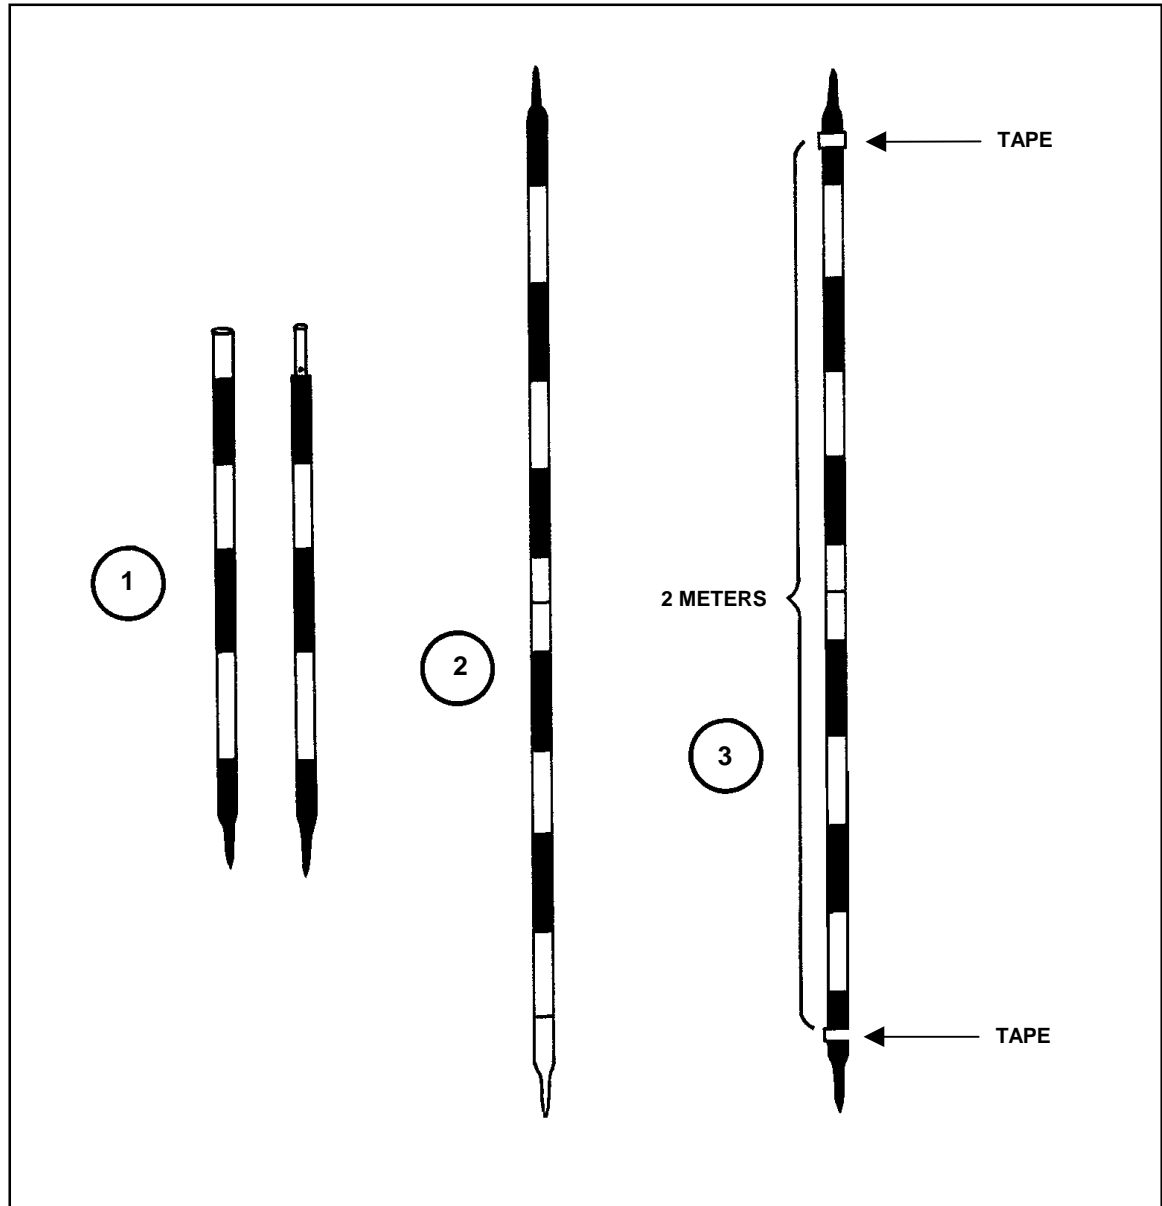

Figure C-7. Subtense bar.
b. While the "circle" man is measuring the grids azimuth, an assistant (the "post" man) moves toward the desired mortar position with the two aiming posts. (Before moving, the "post" man will have joined the post together and placed reflective or black tape strips exactly 2 meters apart on each post.) The post thus becomes a subtense bar (Figure C-7).